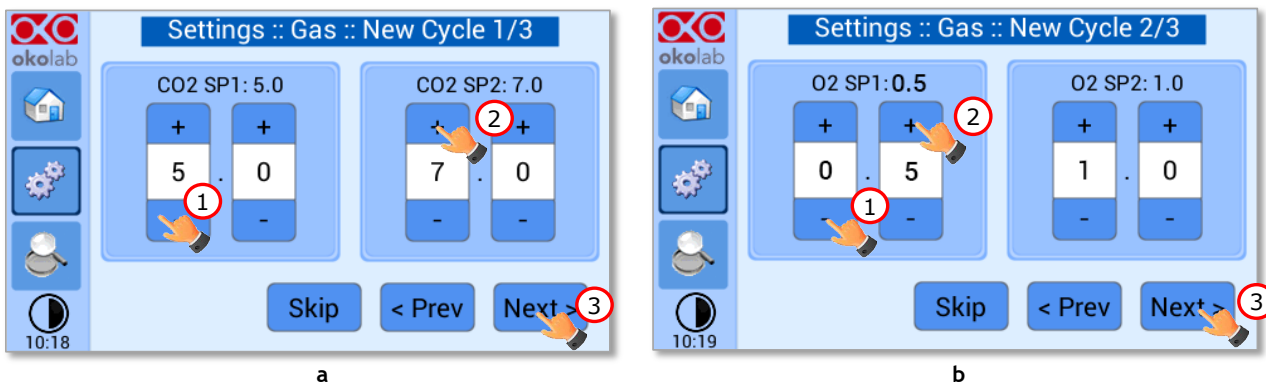

Figure 52. CO2 and O2 Concentrations cycles settings (a - b).
4. Choose the two CO₂ and O₂ concentrations between which you want to switch (*SP1*: Setpoint 1 and *SP2*: Setpoint 2, as shown in Figure 52).